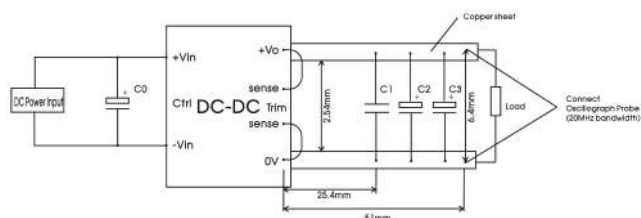

Fig.1
* Ripple & Noise for 48VDC output at 0%lo-100%lo load ≤ 400mV, others outputs at 0%lo-100%lo load ≤ 300mV, the measuring method of ripple and noise, please refer to Fig. 1.
All the DC-DC converters of this series are tested before delivery using the recommended circuit shown in Fig. 1.